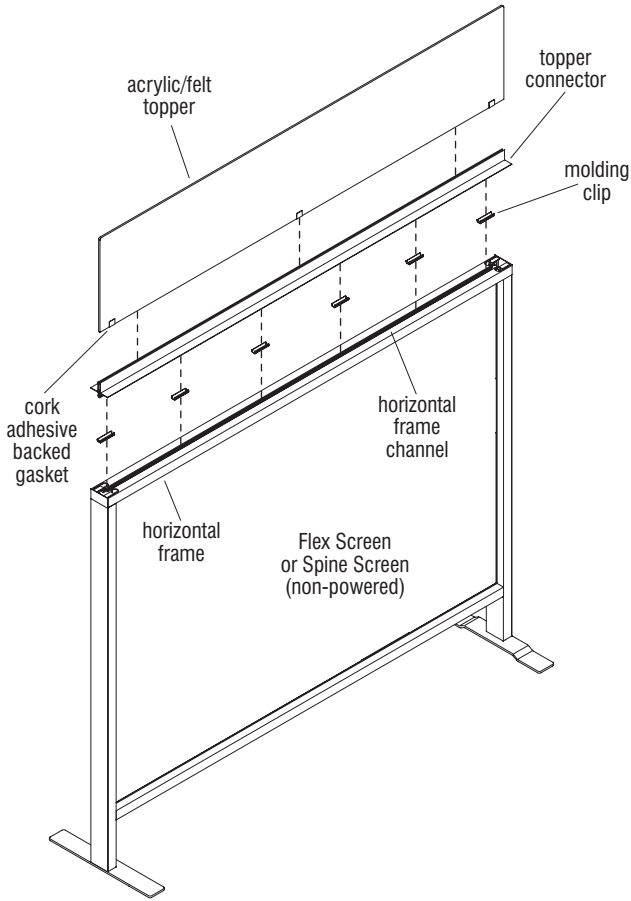

Figure 1
1. On the rib side of the topper connector, space molding clips evenly apart and press them onto the ribs of the connector as illustrated (Figure 1).